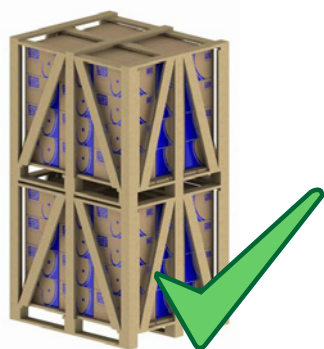
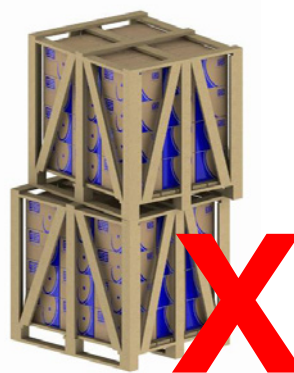

Figure 5.1 – Correct stacking
Figure 5.2 – Incorrect stacking
- 2) Align the packaging correctly (see Figure 5.1 and Figure 5.2).